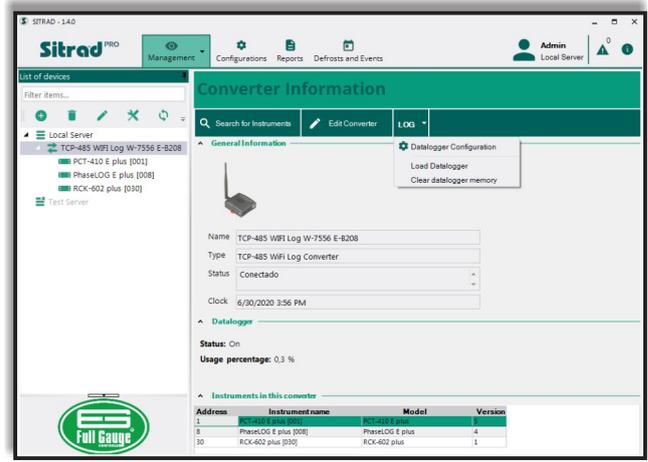
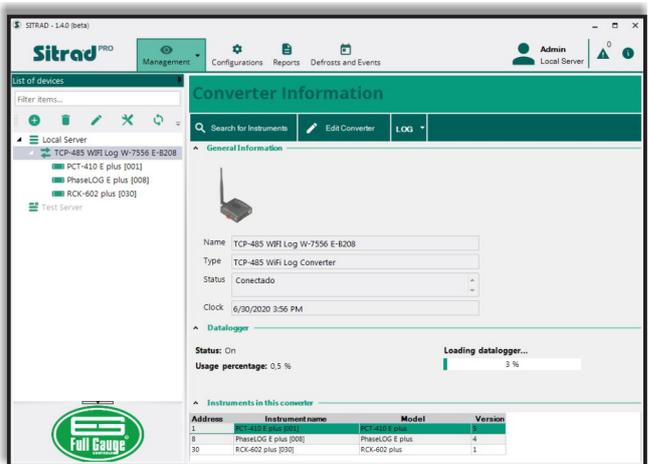
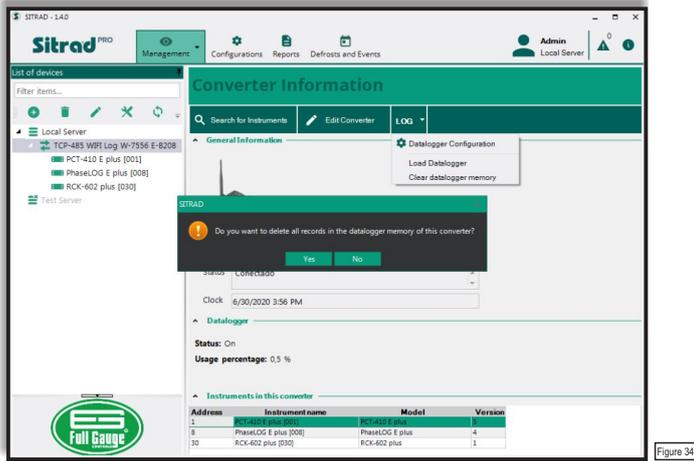

Figure 31
Figure 33
Figure 34
Step 1: With the converter selected, select the **LOG** → **Configure Datalogger** menu on the **Converter Information** tab (Figure 31).
To load the converter Datalogger, select the **LOG** → **Load Datalogger** menu on the **Converter Information** tab (Figure 31). In the **Datalogger** section, a progress bar indicates the process and the percentage elapsed in loading the datalogger (see Figure 33).
To delete the Datalogger data from the converter, select the LOG → Clear Datalogger memory menu on the Converter Information tab (Figure 31). A window will be displayed confirming the operation (Figure 34). Select Yes and all logs will be deleted from the converter's memory.